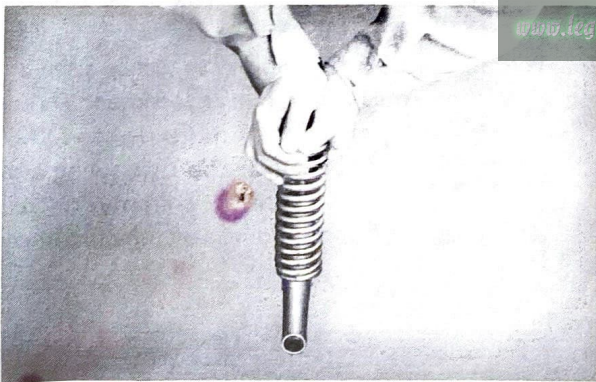

Fig. 5-7-2
- 2) Depress the rear cushion as shown in Fig. 5-7-2, and release it. If the cushion quickly returns halfway and then slowly returns to the original position, the rear cushion is in good condition. But if the cushion quickly returns to the original position, check the cushion for very noticeable oil leakages, and replace the whole assembly if the oil leaks.